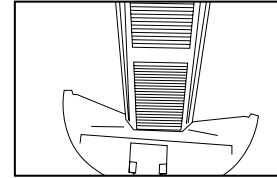

Fig. 2
2. Open the grill cover outward until the tabs at the bottom of the grill cover easily slide away from the unit. Fig. 2